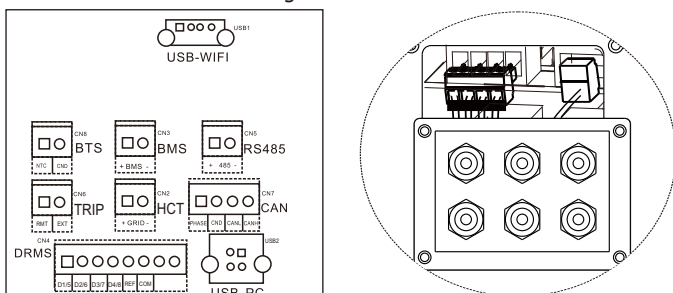

Figure 5-27
- (6) If the inverter connects to a lithium battery, you must connect the BMS to the CN3 BMS com. (Figure 5-27)
- Connect the white and black leads of the CT to the "CN2" CT terminals "+" and "-" on the COM-HCT port of the inverter. (Figure 5-27)
Connect the USB cable to the USB2 USB-PC terminal on the inverter COM port. (Figure 5-27)
The DRM0 is located on the CN6 DRM0 terminal of the inverter's front panel COM port. (See Figure 5-27)